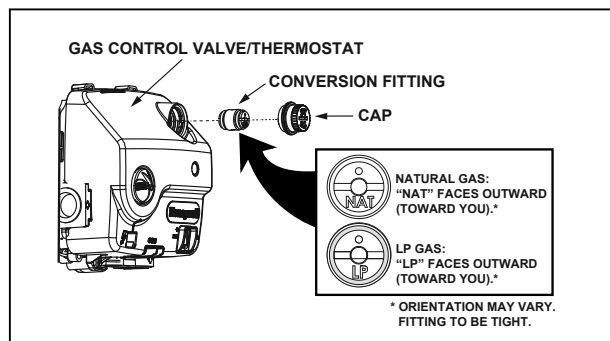

Figure 26: Conversion Fitting
2. Check the setting of the conversion fitting in the gas control valve (Figure 26).
4. Make sure both the conversion fitting (Figure 26) and the manifold burner assembly (see door label) are for the type of gas supplied to your home.
1. Remove the cap (shown in Figure 26).
- A. **LP GAS:** If you are converting the unit to use LP gas (propane), verify that "LP" is marked on the exposed end of the fitting. "LP" must face outward (toward you). See Figure 26. If "NAT" faces outward, repeat step 2.
natural gas, verify that “NAT” is marked on the exposed end of the fitting. “NAT” must face outward (toward you). See Figure 26. If “LP” faces outward, repeat step 2.